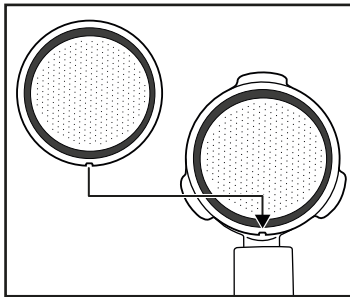

Fig. 1
- 1) Fill the water tank ❹ with tap water.
- 2) Place either the large ❺ or the small espresso sieve ❻ in the sieve holder ❼:
- Make sure that the small indentation on the large ❺ or small espresso sieve ❻ is located above the indentation on the sieve holder ❼ when inserted (see Figure 1).